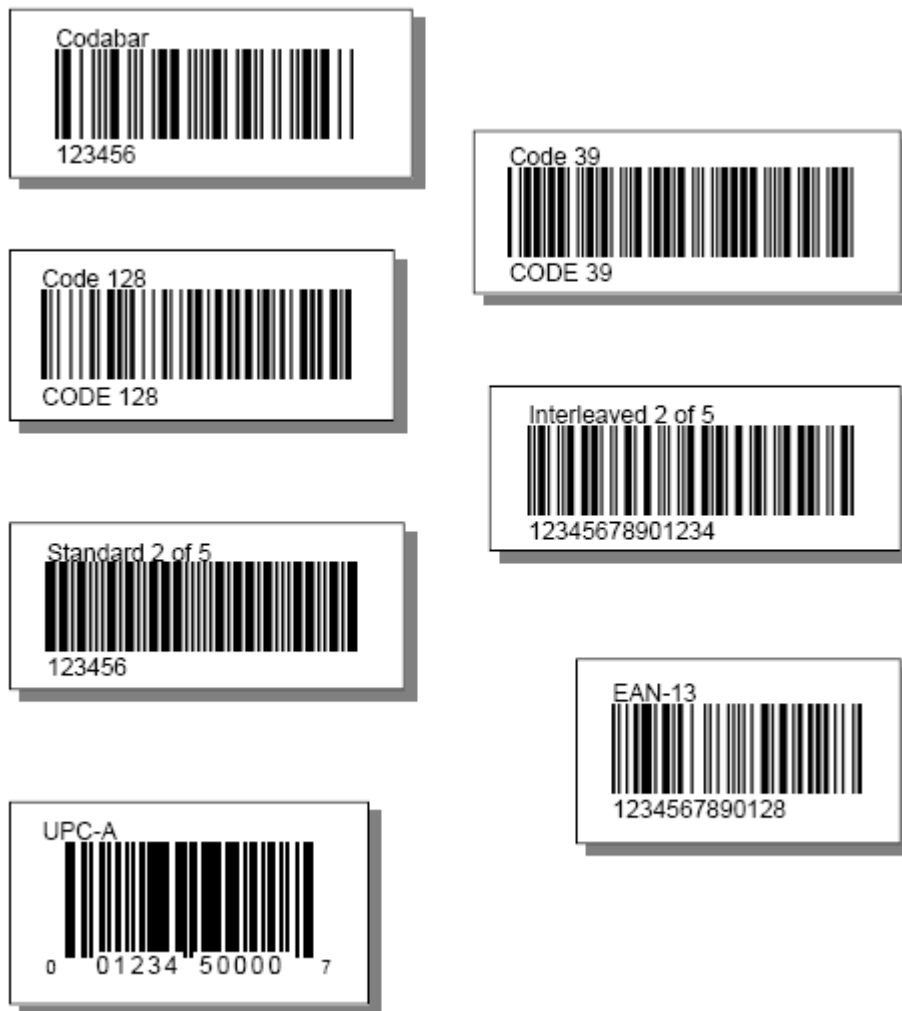

Figure 5-2 Example Symbology
3. Scan the supplied example symbology from Figure 5-2 *Example Symbology* to verify that it is activated.